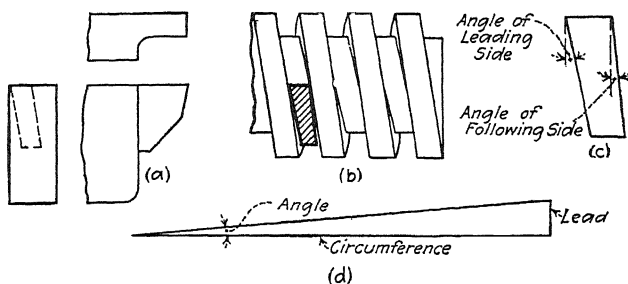

FIG. 192.—The square-thread tool.
**219. The Square-thread Tool.**—Although the square-thread tool (*a*, Fig. 192) looks something like a short cutting-off tool it differs in one very important respect: the blade is not square with the bottom as in a cutting-off tool but is canted to conform to the "slant"1 of the thread. This is illustrated in *b*,
Fig. 192. Before attempting to make a tool for cutting a square thread one should know how to determine the correct amount of slant of the tool for the given thread.
In addition to the slant which the tool blade must have it must be made thinner toward the bottom, otherwise it could not enter the thread at all, let alone have clearance, because a piece with parallel sides cannot fit in a curved slot, and the groove of a square thread is a curved slot. The slant of the leading side of the tool therefore must be greater than the slant of the following side of the tool. But notice that both slant in the same general direction (c, Fig. 192).
The amount of the slant of either side for any thread may be represented by a right triangle (d, Fig. 192). One of the right-angle sides equals the *lead* of the thread and the other the *circumference*, (1) of the minor diameter of the thread for the leading side, and (2) of the major diameter of the thread
for the following side. The number of degrees of slant is measured between the hypotenuse and the side representing the circumference ( $d$ , Fig. 192). (The triangle may be drawn to larger scale if desired.)
*Clearance.*—Theoretically a cutting-off tool need have no side clearance but for practical purposes it must be given clearance, say 1 deg. on each side, or it will rub. In the same way a square-thread tool must have clearance; *in addition to its theoretical shape* it must be made still thinner at the bottom, say about 1 deg. on each side (see  $b$ , Fig. 192). Suppose the
In any right-angle triangle, for example *d*, Fig. 192, the *side opposite* divided by *side adjacent* equals the *tangent of the angle*. Therefore dividing the lead (side opposite) by the circumference (side adjacent) will give the tangent of the angle to be found. In the example given (page 256), find the slant angle of the following side. Lead is 0.250, circumference of major diameter is 3.92 in. Then  $0.250 \div 3.92 = 0.0637$ . Looking in the table below, the nearest number to 0.0637 is 0.0641 which is the tangent of the angle 3 deg. 40 min., the same angle as was found by drawing the figure and measuring with a protractor. (For square threads the angle within a third of a degree is near enough; the table shows every 10 minutes or one-sixth degree.)